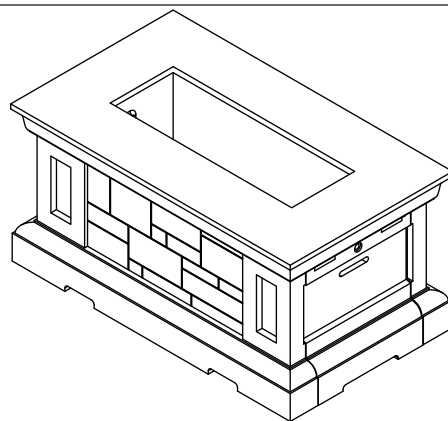

Fig. 16-2 Two-piece model: place unit
1. **CAREFULLY** place the unit in an appropriate location (see Fig. 16-2, and refer back to the LOCATION section if needed).